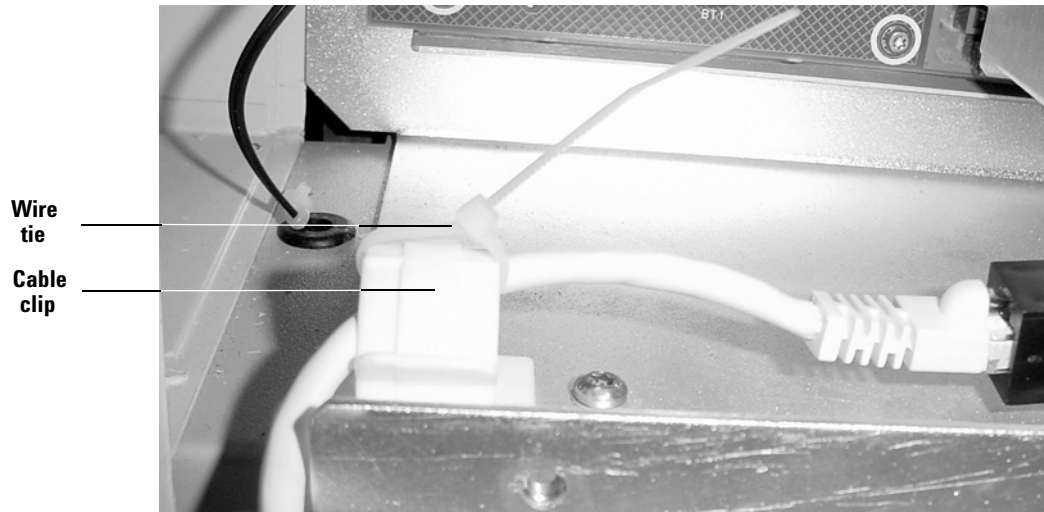

Figure 10 Plastic cable clip and wire tie as strain relief for your LAN cable
- 2 Provide strain relief for your external LAN cable and its internal connections by affixing the adhesive-backed plastic "cable clip" to the GC frame and then using a plastic "wire tie" to secure the cable to the clip (detail, Figure 10). Additional wire ties provided may be used as desired for securing purposes.